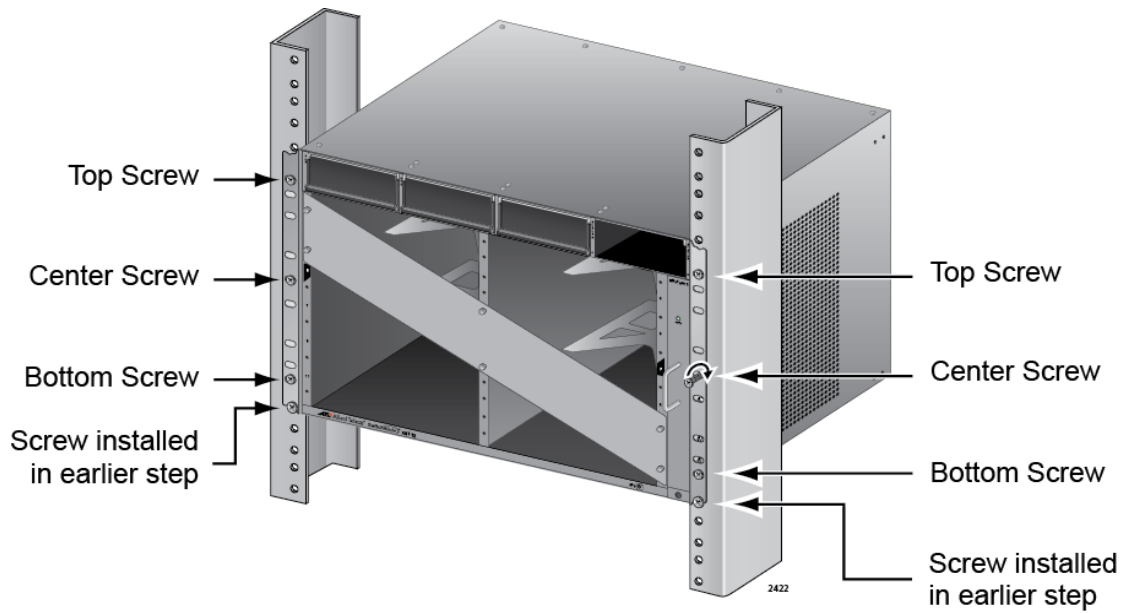

Figure 40. Installing the Rack Mount Screws
4. Install six rack mount screws (not provided) to secure the chassis to the equipment rack, as shown in Figure 40 on page 112.